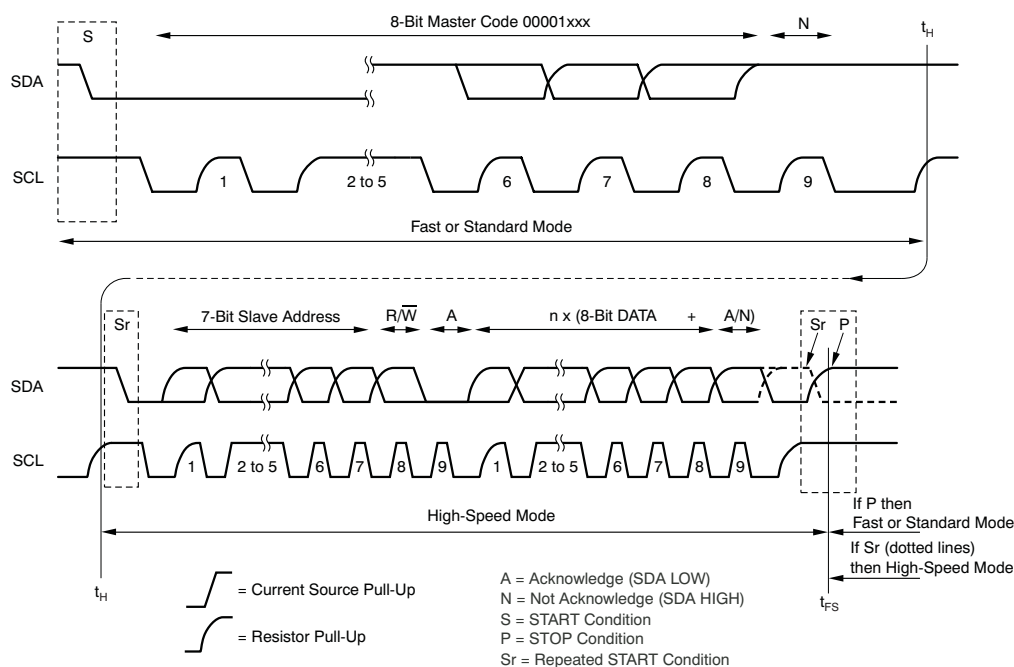

Figure 30. Complete High-Speed Mode Transfer
When the bus master sends the address byte with $\overline{\text{R/W}}$ bit = 0, and the TSC2007 sends an acknowledge, the pen-interrupt function is disabled. If the command that follows the address byte contains PD0 = 0, then the pen-interrupt function will be enabled at the end of a conversion. This is approximately 100 μs (12-bit mode) or 50 μs (8-bit mode) after the TSC2007 receives a STOP/START condition, following the receipt of a command byte (see Figure 31 and Figure 30 for further details about when the conversion cycle begins).
1. START condition (S)
3. Not-acknowledge bit (N)
Figure 30 shows this sequence in more detail. Hs-mode master codes are reserved 8-bit codes used only for triggering Hs mode, and are not to be used for slave addressing or any other purpose. The master code indicates to other devices that an Hs-mode transfer is about to begin and the connected devices must meet the Hs mode specification. Because no device is allowed to acknowledge the master code, the master code is followed by a not-acknowledge bit (N).
After the not-acknowledge bit (N) and SCL have been pulled-up to a HIGH level, the master switches to Hs-mode and enables the current-source pull-up circuit for SCL (at time t_{H1} ; shown in Figure 30). Because other devices can delay the serial transfer before t_{H1} by stretching the LOW period of SCL, the master enables the current-source pull-up circuit when all devices have released SCL, and SCL has reached a HIGH level, thus speeding up the last part of the rise time of the SCL.